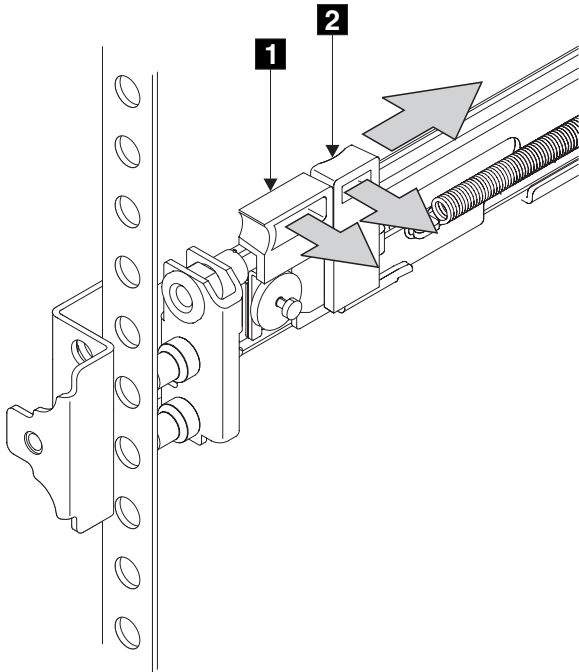

Figure 51. The left support rail for the SAN Volume Controller
2. Put your left index finger onto the back edge of the latch lever **2** and your left thumb on the front edge of the latch lock **1**, as shown in Figure 51 on page 58.